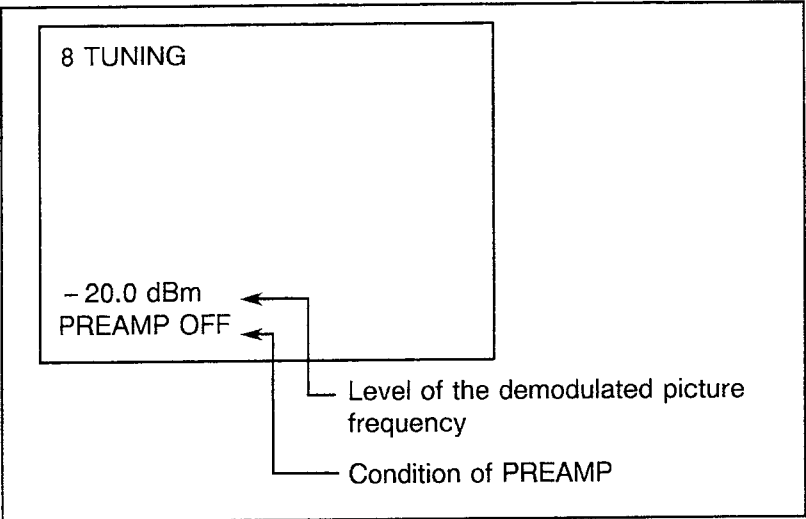

Figure 8-3 Tuning level display
- 1 TUNT LVL ... Displays the tuning level. The level of the demodulated picture frequency and the condition of the preamplifier (ON/OFF) are displayed on the OSD. (See Figure 8-3.)